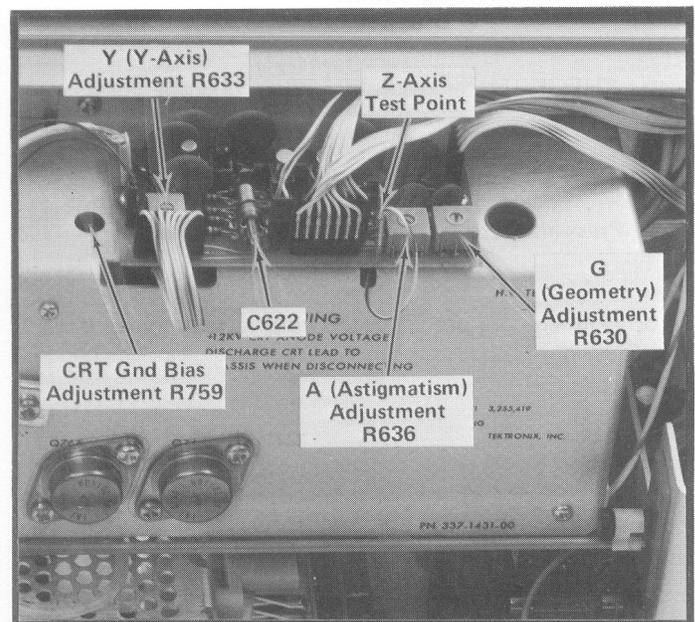

Fig. 5-4. Locations of Display and Z-Axis Adjustments and test point.
d. Connect the DC voltmeter (VOM) between the Z Axis test point (see Fig. 5-4) and chassis ground. Note the voltmeter reading.
f. ADJUST—CRT Grid Bias adjustment R759 (see Fig. 5-4) so the dot on the CRT screen is just extinguished.
f. ADJUST—FOCUS control and A (Astigmatism) adjustment R636 (see Fig. 5-4) to obtain best display definition.
e. Connect the probe tip to the Z-Axis test point (see Fig. 5-4).
i. ADJUST—C622 (see Fig. 5-4) for optimum square leading corner (use low-capacitance screwdriver to adjust variable capacitor).
d. ADJUST—Y (Y-Axis) adjustment R633 (see Fig. 5-4) to align the trace with the center vertical line.
l. ADJUST—G (Geometry) adjustment R630 (see Fig. 5-4) for minimum bowing of time markers. Adjustment may have to be compromised to obtain less than 0.1 division bowing and tilt everywhere within the graticule area.